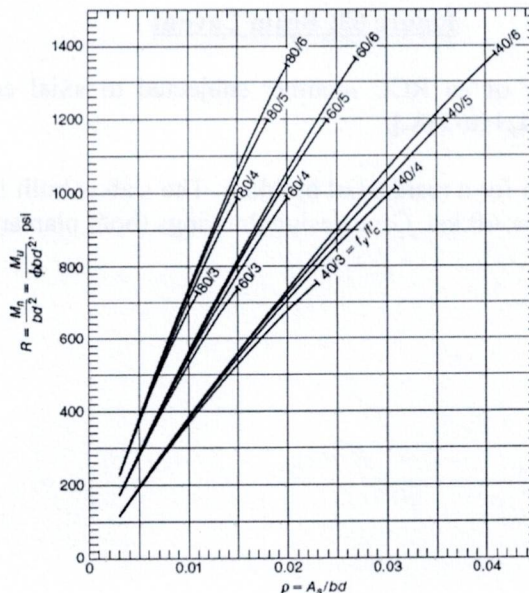

Figure 02: Moment capacity of rectangular sections
- 3.b) Find the concrete cross-section and the steel area required for a simply supported rectangular singly reinforced beam with a span of 15 ft that is to carry a computed dead load of 1.27 kips/ft and a service live load of 2.15 kips/ft using the graph shown in Figure 02. $f'_c=4000$ psi, and $f_y=60,000$ psi. Use a reinforcement ratio of 0.60 $\rho_{0.005}$. 05